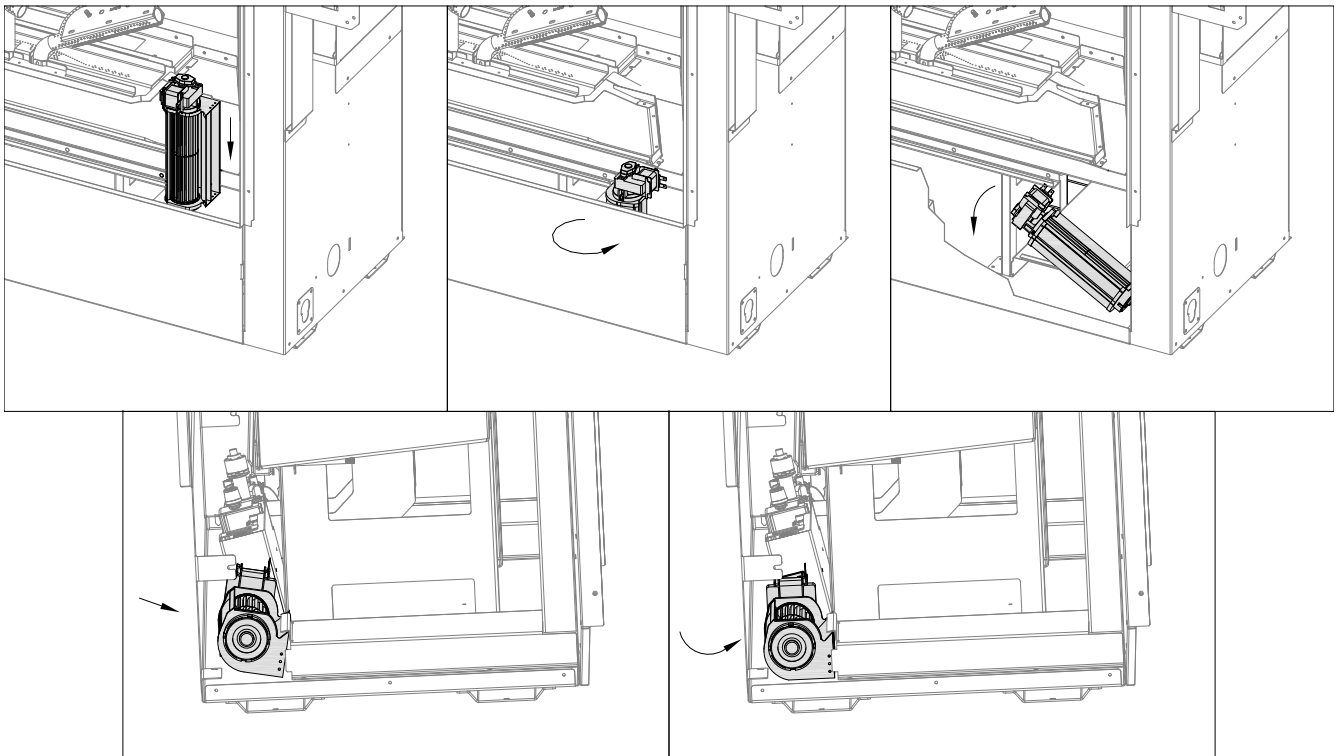

Figure 8.15 - #SL42-028 Fan Kit Installation
4. With the terminal end of the fan facing you, insert fan into chamber. See Figure 8.15.
7. Place the upper edge of the fan discharge under the edge of fireplace air channel opening. Rotate the fan up towards the edge to secure fan into place. See Figure 8.15. **DO NOT LET THE FAN REST ON ANY ELECTRICAL CORDS.**